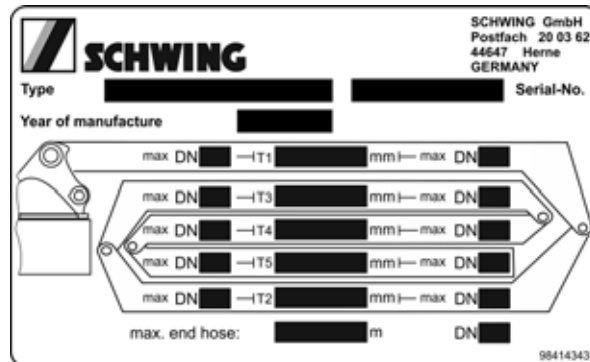

Fig. 144 Example: Type plate on 5-part boom
A distinctive type plate is located on the placing boom for the placing boom pumping line (**Fig. 144**). The nominal sizes (DN) specified on this type plate are the maximum allowable.
Caption for (Fig. 144)